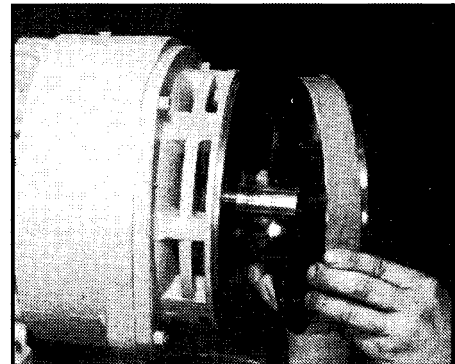

Figure 3-1
2. Place the housing #8 onto the motor pilot flange with the drain plug #64 located at the bottom (See Figure 3-1).